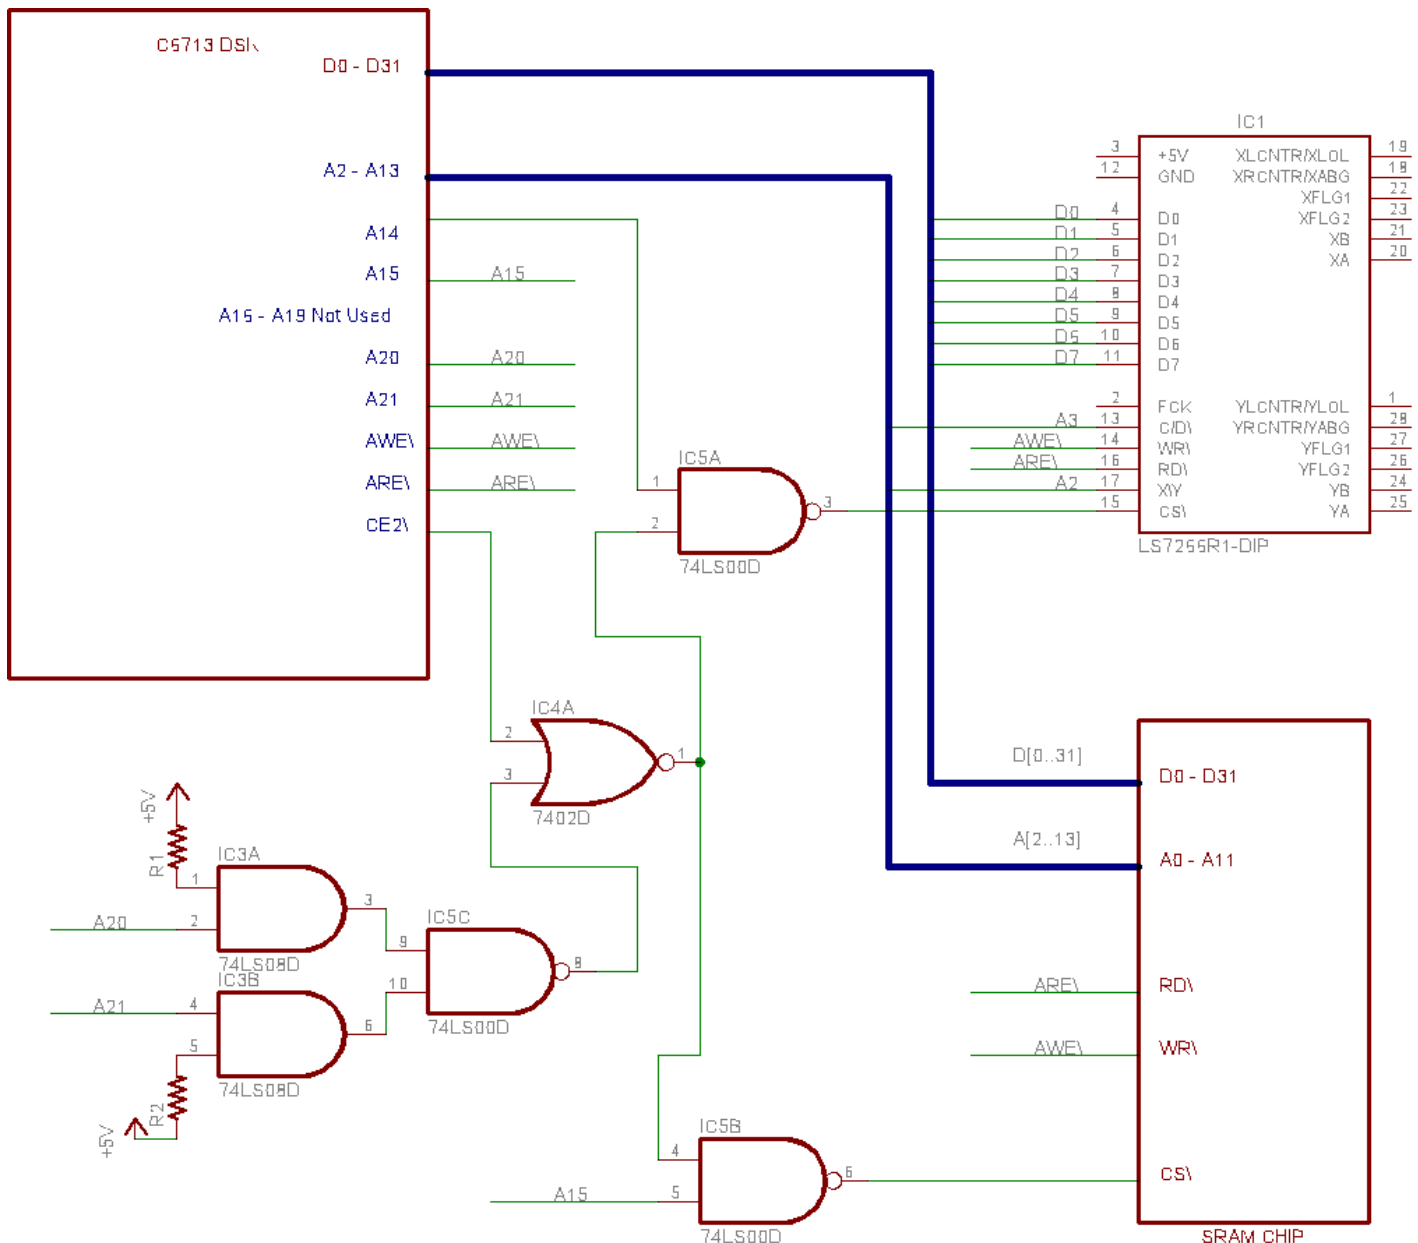

Figure 2:
- Figure 2 is a schematic of a parallel interface between the old mechatronics processor, TMS320C6713, and two ICs, an optical encoder IC the LS7266, and a generic SRAM IC. The CE2 pin is pulled low for the 100ns write time when any address in the range 0xA0000000 to 0xFFFFFFFF is written to or read from. The write command in C is written: `*(volatile int *)0xA0????? = <data to write>;`. The read command in C is written: `<data to read> = *(volatile int *)0xA0?????;`. The ? in the address indicate that bits A2 through A21 need to be determined to communicate with the correct chip and that chips correct register. Complete the next three questions: